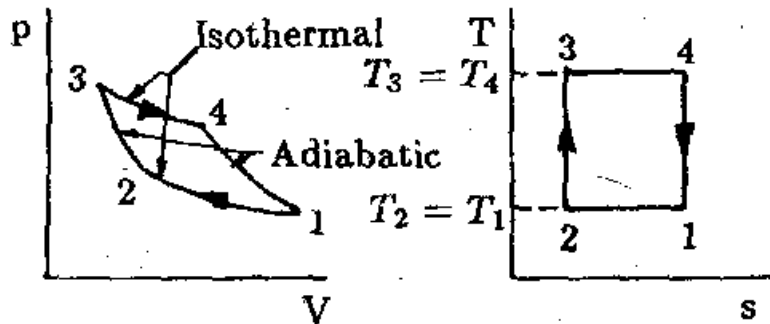

Fig. 3.1 Carnot Engine
- The cycle consists of two isothermal and two reversible adiabatic processes as shown in Fig 3.1.